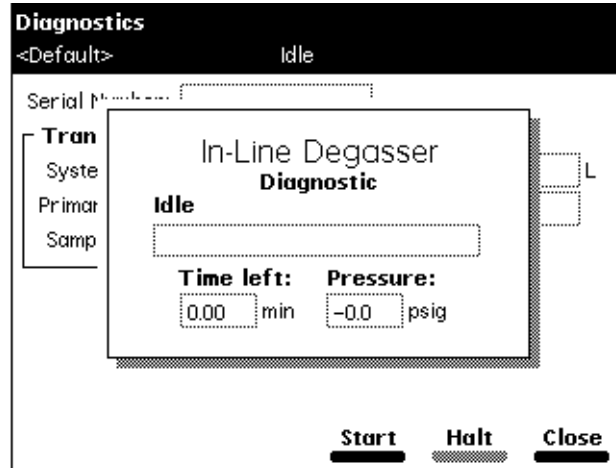

Figure 8-18 Degasser Diagnostic Screen
1. Select **Degasser** in the Other Diagnostics screen, then press **OK**. The In-Line Degasser Test screen appears (Figure 8-18).